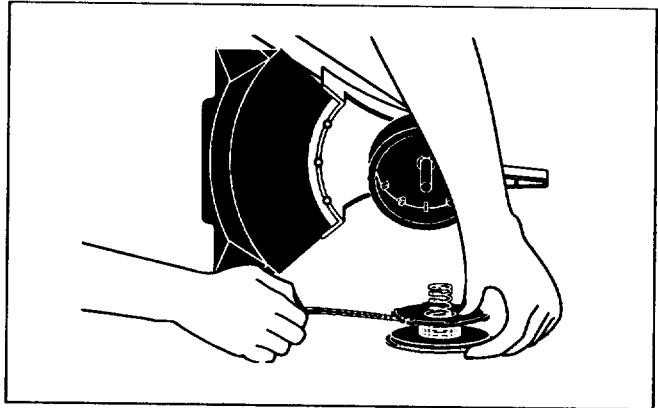
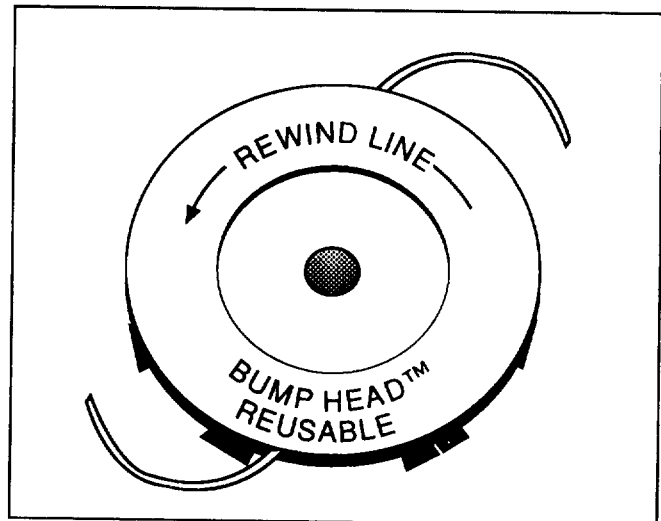

Fig. 15
Fig. 16
2. Wind the two lines onto the reel in even and tight parallel layers (Fig. 15). Wind the line counterclockwise as indicated by the arrow on the inner reel (Fig. 16). Be sure not to overlap (cross) the lines because the Bump Head line feed will not operate correctly.